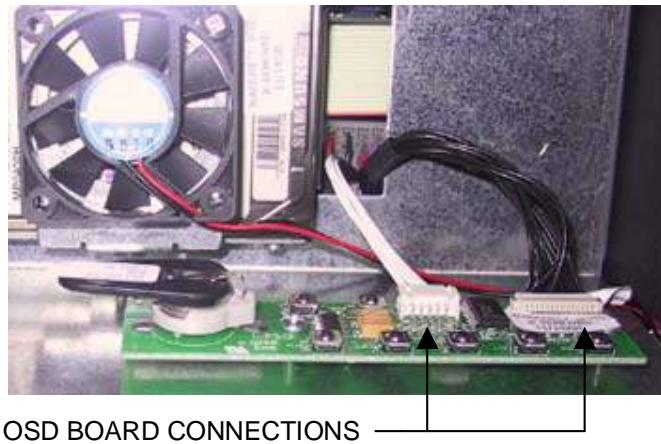

FIGURE 2 - OSD BOARD
5. Disconnect the 2 OSD board connections. See Figure 2.
6. Reconnect the 2 OSD board connections as well as the 2 fan connections. See Figure 2.